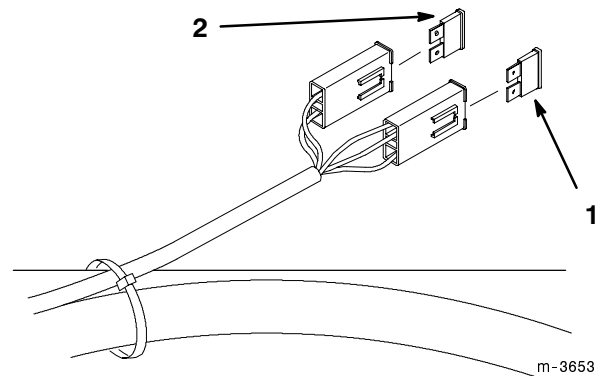

Figure 68
1. Raise the seat to gain access to fuse holder (Fig. 68).
2. To replace fuses pull out on the fuse to remove it (Fig. 68).